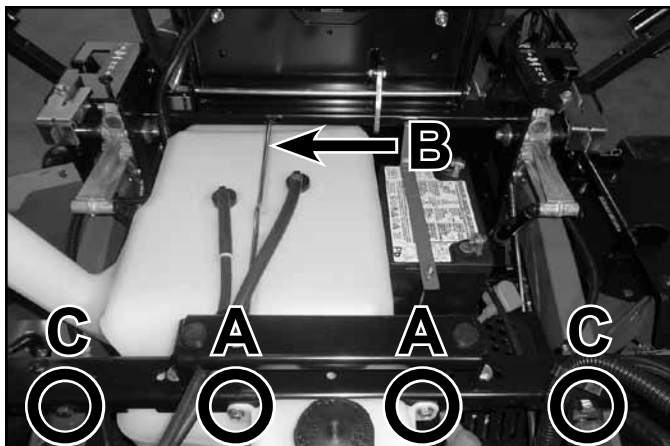

Fig. 037
7. Remove the (2) bolts and nuts (C) that secure the seat support to the frame brackets.
8. Remove the seat support bar from the frame (Fig. 037).